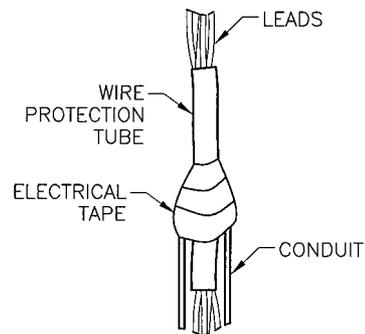

Figure 8
6. To help prevent damaging wires during installation, fit the wire protection tube provided in the Electrical Fitting Kit over wires and half way into conduit. (temporarily secure with adhesive tape) See Figure 8